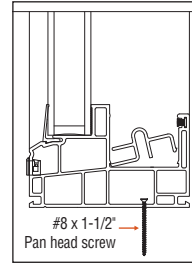
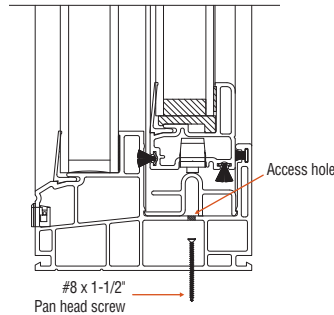

fig. 6
fig. 7
- c. To fasten the sill of the slider you first remove the interior sash and then unsnap the bottom slider track (**fig. 6**). Drill a 3/8" access hole through the first chamber of the frame using a #8 x 1-1/2" Pan head screw fasten through the access hole. It is important to seal the screws in silicone caulk and insert a 3/8" hole plug (**fig. 7**).